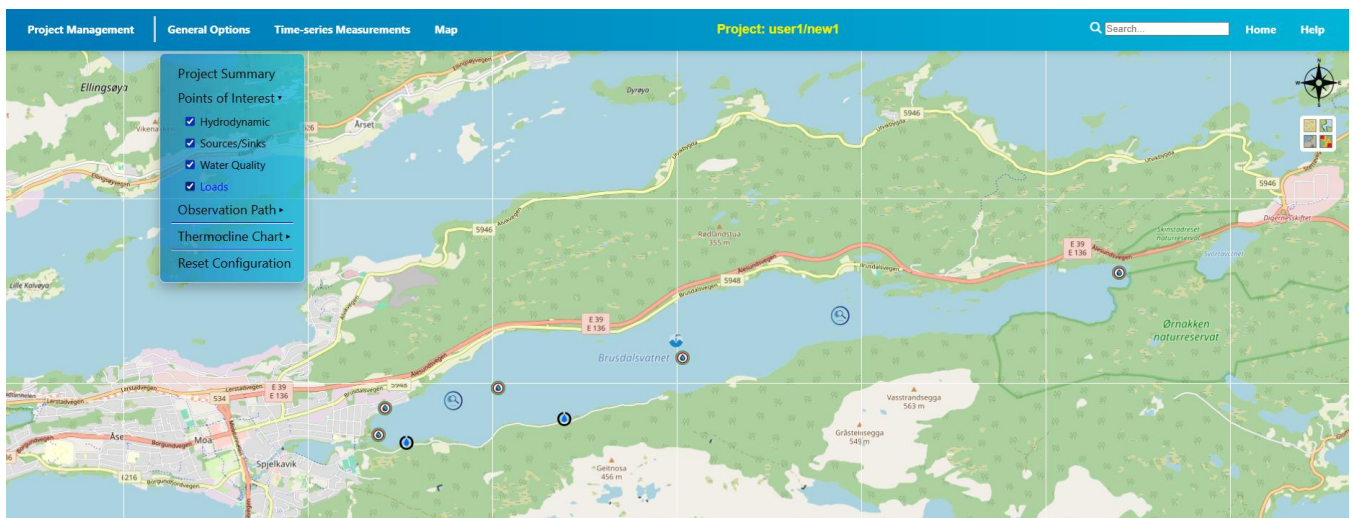

Figure 5.3. Location of interest points
- Select *Points of Interest* to see locations of component produced from the simulation (Figure 5.3).